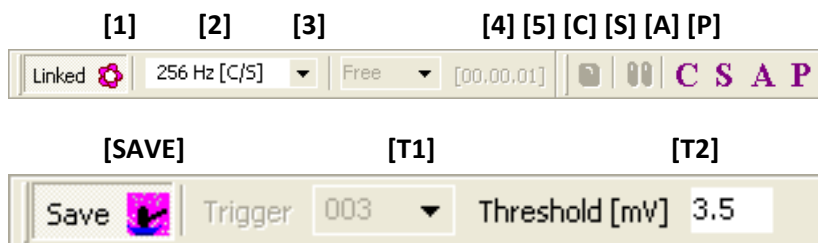

Figure 17. Detail of the main window toolbar (Figure 15).
- 4) set the sampling frequency by acting on the corresponding list box in the main window toolbar (Figure 15, element 2 in Figure 17),
To enter this acquisition mode, click the button “C” in the main window toolbar (Figure 15, Figure 17).
To enter this acquisition mode, click the button “S” in the main window toolbar (Figure 15, Figure 17).
Recordings will be saved only when the button CONTINUOUS is clicked (element [C] in Figure 17) and its background color is switched to magenta.
The length of the saved recording is shown in the [hh:mm:ss] field of the main window toolbar (Figure 17).
In the STACKING mode, recordings are saved (both separately and stacked) when the threshold is exceeded on the channel selected as trigger. Set the trigger channel from the SET TRIGGER function of the PARAMETER window (Figure 12) or straight from item [T1] in main window toolbar (Figure 17).